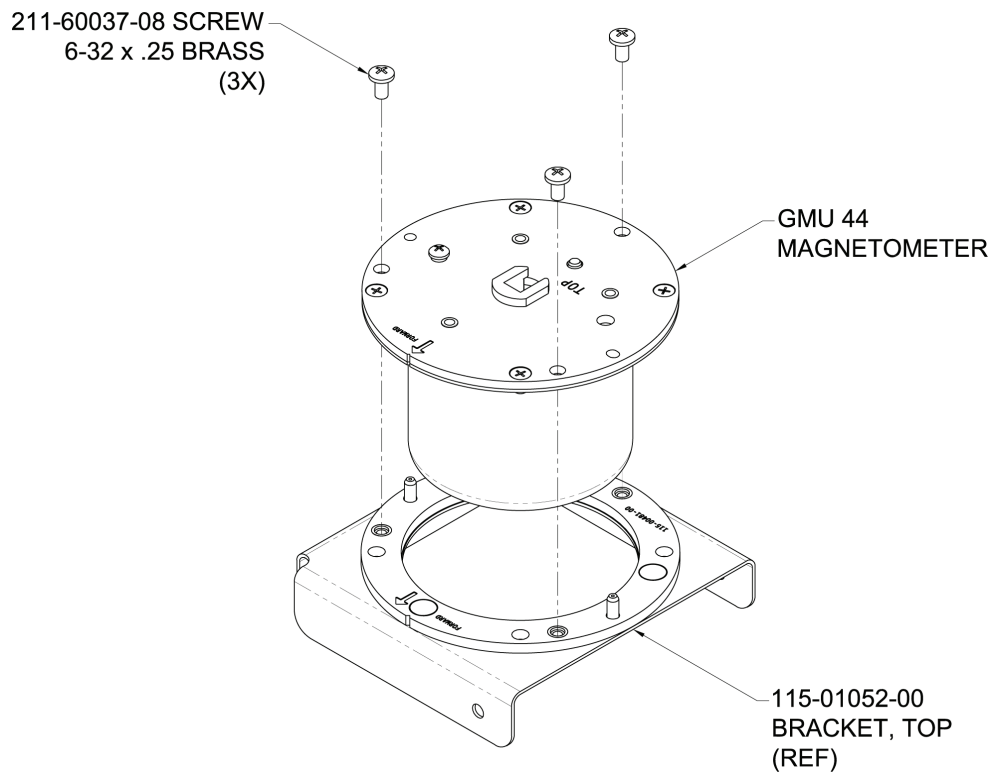

Figure C-5 Lancair IV/IV-P GMU 44 Mounting Bracket
2. Attach the GMU 44 to the Top Bracket Assembly (115-01052-00) using screws (211-60037-08) as shown in Figure C-5.